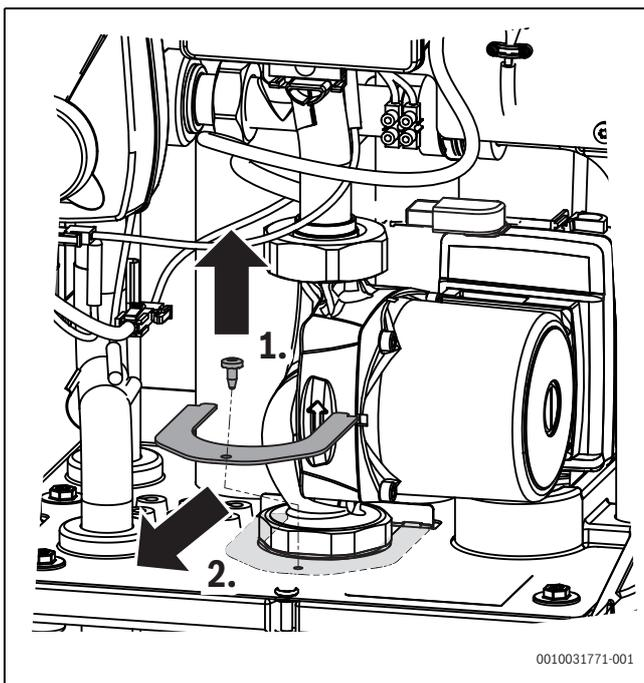

Fig. 42 Remove locking plate
- ▶ Remove the lock screw and pull the locking plate forwards and out (→ Fig. 42).